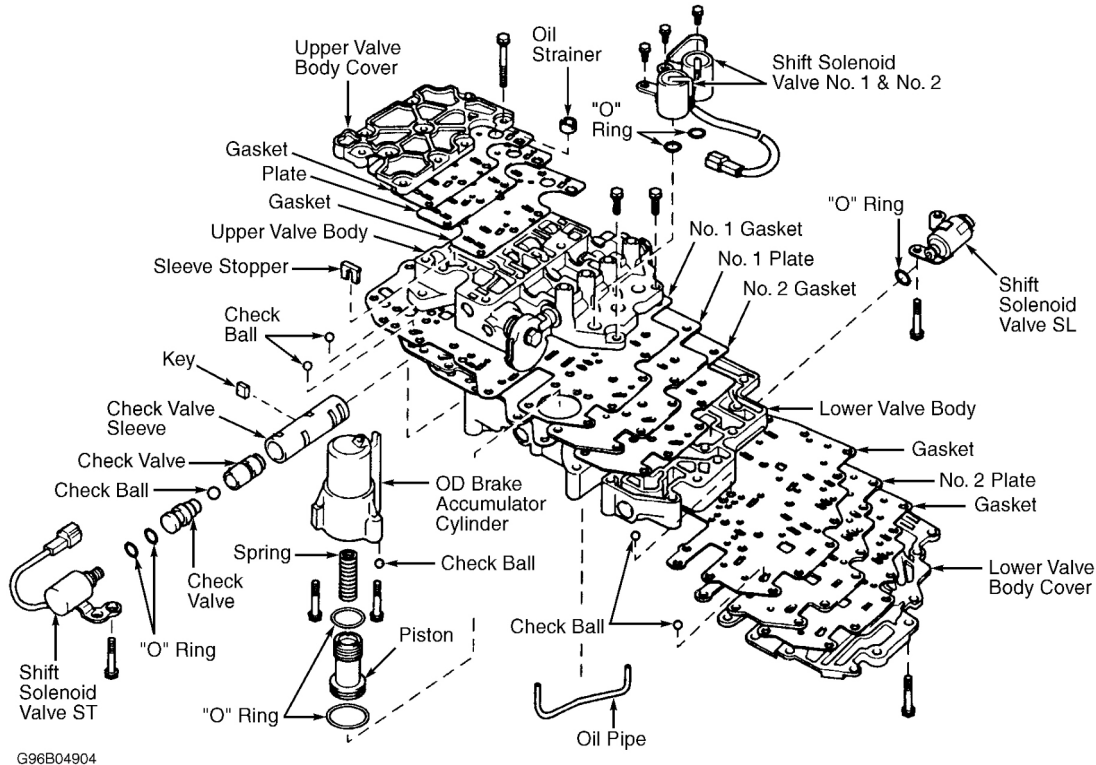

Fig. 32: Exploded View Of Valve Body Assembly
1. Remove solenoid(s). See **Fig. 32** . **DO NOT** use a screwdriver to pry up solenoid(s). Remove "O" ring(s) from solenoid(s).
2. Remove accumulator assembly. Remove check ball on No. 1 plate. Applying compressed air to accumulator cylinder hole, remove piston and spring. Remove 2 "O" rings from piston. See **Fig. 32** .
3. Remove bolts from upper valve body and cover. Note bolt length and location for reassembly reference. Remove upper valve body cover, oil strainer, gaskets and plate. Remove lock-up relay valve sleeve stopper. See **Fig. 32** . Turn assembly over.